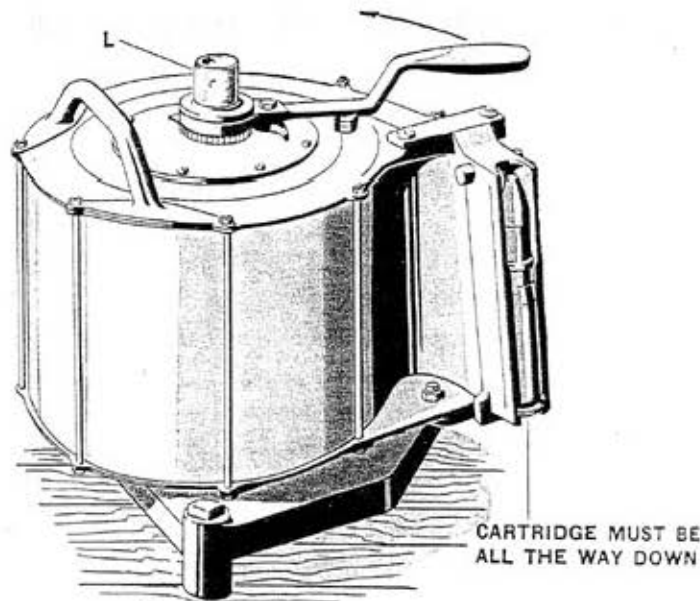

Figure 67—Loading lever on spring axis
7. Install the loading lever on the magazine spring axis as shown in Figure 67. Turn the loading lever counter-clockwise just far enough to take the slight remaining spring tension.
6. Turn the cover plate (I) counter-clockwise until the indicator shows zero and the indicator block (J) can be felt coming up against the clock spring (E).
7. Assemble the coupling sleeve (L) with its spring, the retaining ring and the cross pin.
8. Slip the loading lever on the spring axis (G) as shown in Figure 67 and turn the loading lever counter-clockwise about seven-eighths of a revolution or until the letter "A," stamped on the cover, is in alignment with letter "A" stamped on the magazine casing.